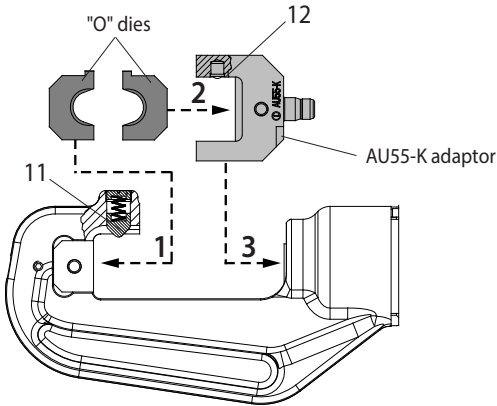

FIG. 2e
- Insert one "O" type die in the upper seat of the head (1) and the other die into the adaptor AU55-K (2), the two dies will be held by pins (11 and 12) (see Fig. 2e).
- Insert the adaptor AU55-K into the seat of the ram (3).